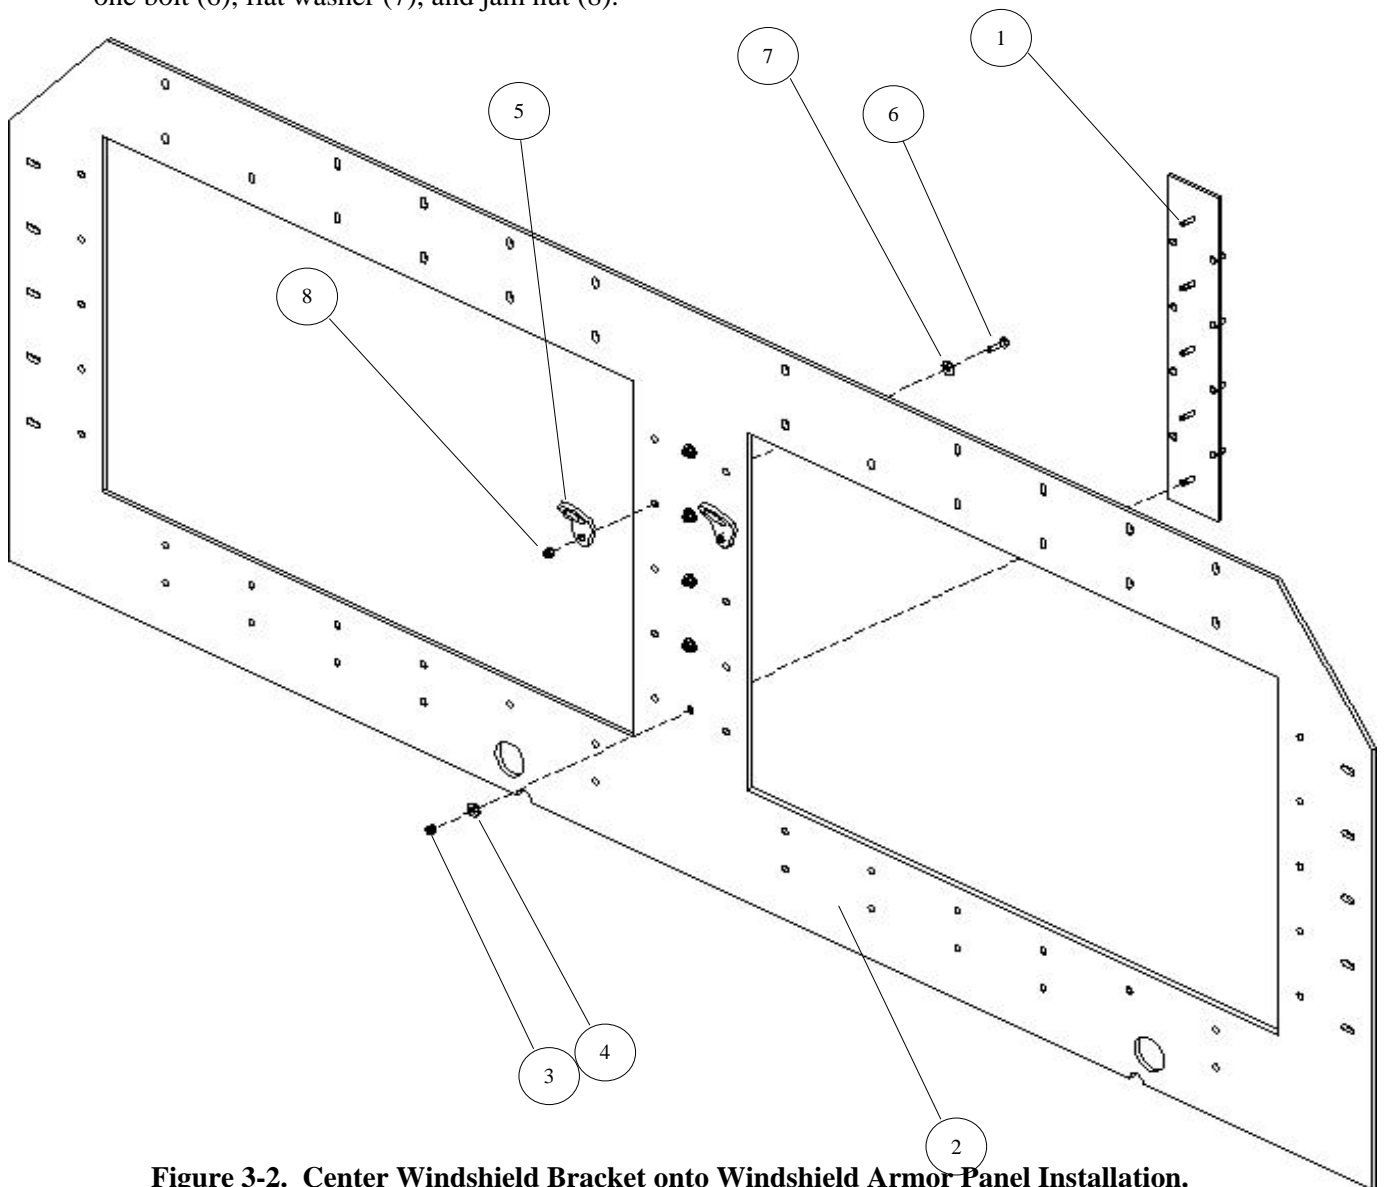

Figure 3-2. Center Windshield Bracket onto Windshield Armor Panel Installation.
1. Install center windshield bracket onto windshield armor panel as follows (see Figure 3-2):
- a. Install one center windshield bracket (1) onto windshield armor panel (2) and secure with five locknuts (3) and flat washers (4). Torque locknuts to 7 lb-ft.